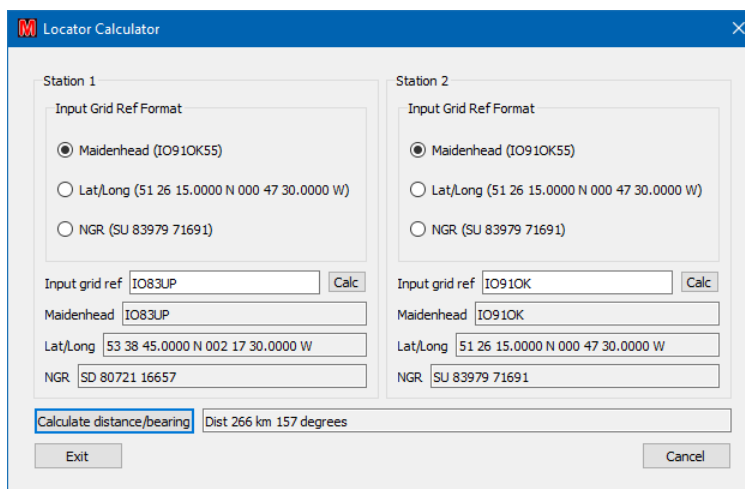

Figure 37 – Locator calculator
Depending on the option selected, you can enter a Locator, a Latitude/Longitude, or a (UK) National Grid Reference³⁹ into the “**Input grid ref**” box (see Figure 37) and convert between the various displays. Selecting “**Calc**” (or hitting “**Return**”) will then calculate and display the other two formats. If both Station details are given it also calculates the distance and bearing from Station 1 to Station 2.